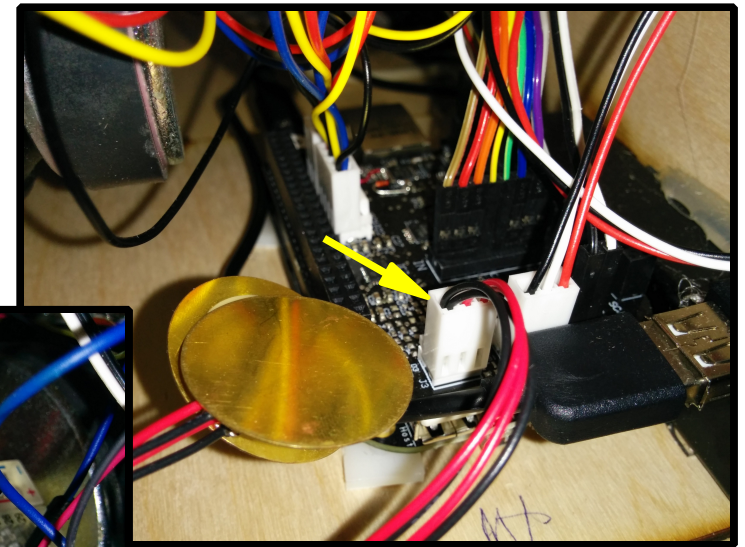

Fig. 4 - Piezo discs wiring
- 2 *piezo discs* [contact microphones] are hooked up to the BeagleBone via the wires and the connector shown in Fig. 4. Feel free to disconnect them if you do not want to use them;